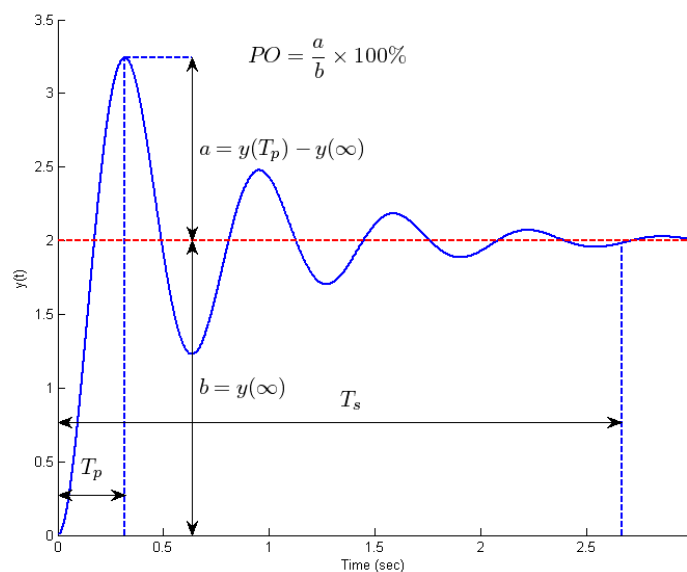

Figure 6: Second-order underdamped system characteristics
In this part you will examine the characteristics of an RLC circuit to determine the static gain, natural frequency and damping ratio. Figure 6 shows some of the important characteristics of the step response for an underdamped second order system including Percent Overshoot (PO), Time to peak (Tp), settling time (Ts), and steady state value (y(∞)).